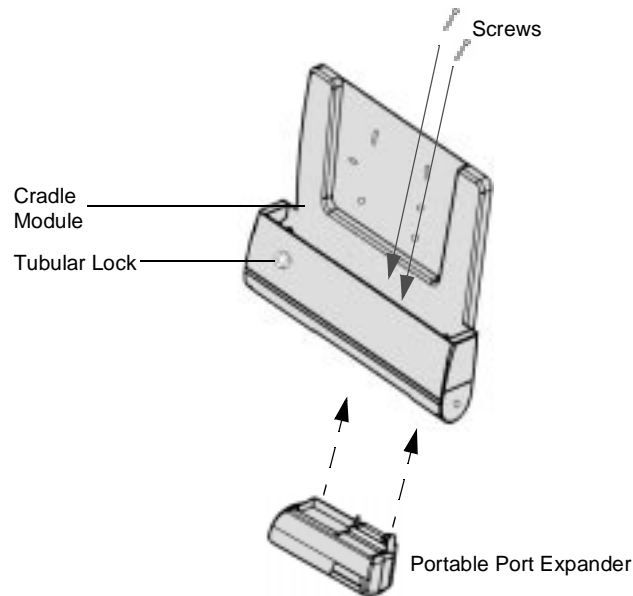

Figure 2-3. Installing the Portable Port Expander
1. Insert the portable port expander through the bottom of the cradle module as shown in Figure 2-3.
3. Insert the two screws (provided with the portable port expander) as shown in Figure 2-3 and tighten until snug.